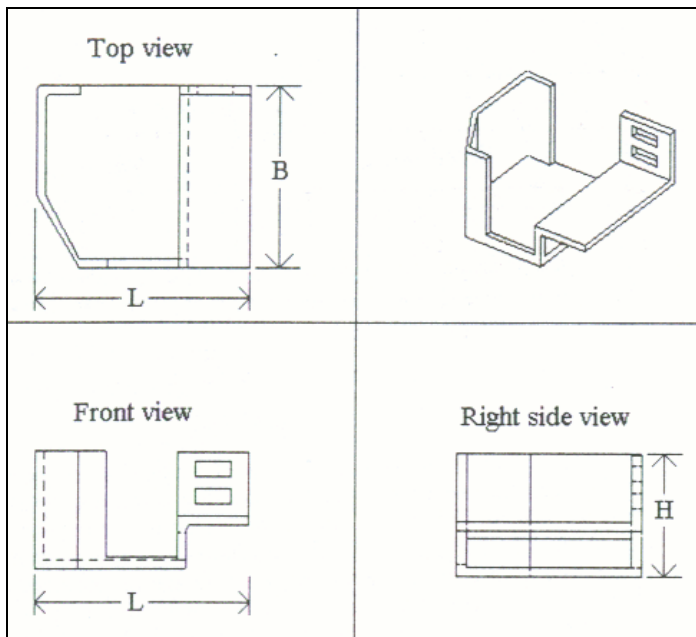

Figure 3.1:
- a) What comments would you make concerning the tooling costs for the part shown in Fig 3.1. (What suggestions in words would you make to reduce tooling cost?). [4]
- b) Before you convince your MD that your suggested redesign of the part shown in Fig 3.1 will yield significant savings in tool cost, calculate the current tool costs assuming $L = 70$ mm, $B = H = 50$ mm, the part has a textured surface finish and that tight tolerance are to be used. [16]